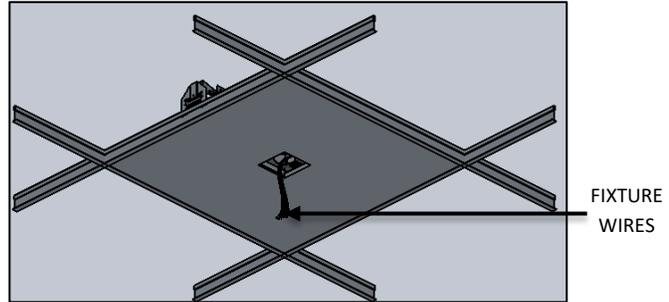

FIG. 22- ASSEMBLED VIEW SHOWING RECESSED J-BOX TO THE CEILING
**CAUTION: Make sure FIXTURE WIRES from DRIVER are capped while waiting to install fixture as shown in FIG. 22.**